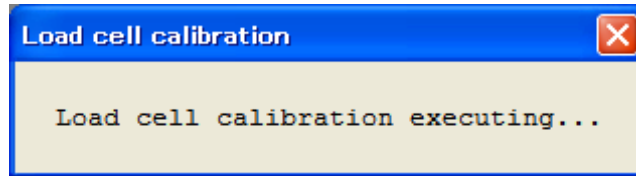

Fig. 10.18 Load Cell Calibration In-Progress Message
- (1) The message "Load cell calibration executing..." (Fig. 10.18) appears and the calibration is performed.